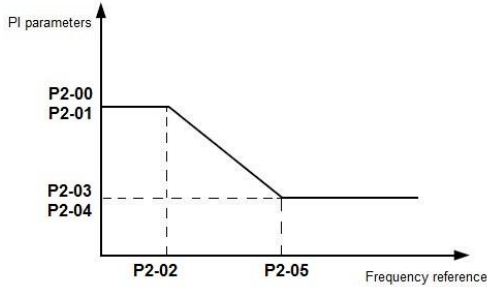

Figure 6-2: Relationship between running frequencies and PI parameters
- If the running frequency is between P2-02 and P2-05, the speed loop PI parameters are obtained from the linear switchover between the two groups of PI parameters, as shown in Figure 6-2.